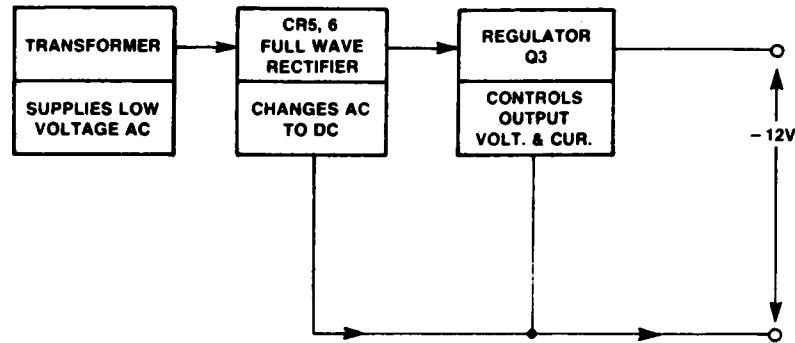

Figure 3-11. PRINTCON -12 VOLT POWER SUPPLY.
4. The -12 VDC power supply operates by using voltage from the full wave rectifier (CR5 and CR6) which is filtered by C4. This filter circuit provides voltage to integrated circuit regulator Q3, through fuse F3, which regulates the output voltage. (Figure 3-11.)